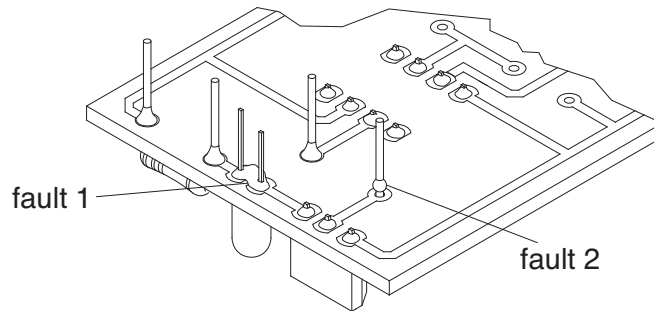

Fig. 8
- (c) Fig. 8 shows part of the solder side of the circuit board for the frost monitor. There are two faults visible on the soldering. State how each fault can be corrected.